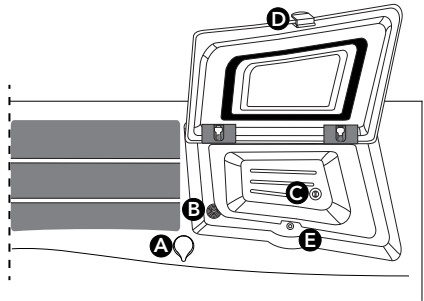
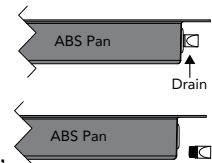

Figure 12.1c
Figure 12.1f
From the Settings Menu (Figure 12.1a) tap **SunCooler™...** to enter the SunCooler Drain Menu, Figure 12.1b. When water accumulates within the SunCooler bins, draining of the water can be done in one of two ways, internally into the hot tub (Figure 12.1d) or externally out of the hot tub (Figure 12.1f). There are also SunCooler perimeter drains, Figure 12.1c. When water accumulates, in the perimeter, draining is continuous any time pump 1 is running.
- 4. Locate the air control that works with the bin drain, Figure 12.1c, and close it by turning it counterclockwise.
- 2. Locate the drain plug on the ABS pan of the hot tub, Figure 12.1f.
- 3. Turn the thumb screw counterclockwise to remove, Figure 12.1f. Place the screw in a safe location to prevent from losing it.